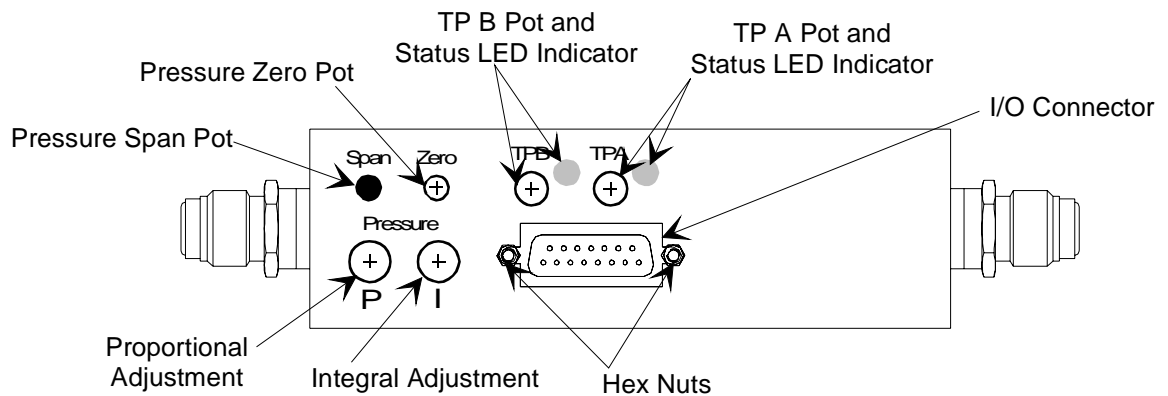

Figure 6: Top View of the Type 649 Controller
The 649 controller has one 15-pin, male Type “D” connector that provides the pressure output, set point input, and trip point output signals. Refer to Figure 6, page 21, for the location of the connector.
Figure 6 shows the top view of the 649 pressure controller. The user adjustable controls for pressure zero, pressure span, the P term, the I term, and the trip points are located on the top of the controller. The trip point settings can be measured through two test jacks, located under the enclosure, on the Transducer board. Refer to Figure 14, page 39, for the location of the test jacks.
The Proportional (P) term adjustment is located on the top of the 649 unit, as shown in Figure 6, page 21. The control is a 10-position dial, though it uses only 8 values. The last positions, 8 and 9, repeat the values of positions 0 and 1. The initial setting is 0. As you increase the setting number, the value of the term increases by a factor of approximately 2.8.
The Integral (I) term adjustment is located on the top of the 649 unit, as shown in Figure 6, page 21. The control is a 10-position dial where the 0 setting has the *longest* integration time; the 9 position setting has the *shortest* integration time. The initial setting is 0.
The 649 controller provides two trip points (Trip Point A and Trip Point B). Each trip point operates independently and controls an open collector output that can be connected to an external relay. Each trip point has an adjustment pot, a status LED, and a test jack. Refer to Figure 6, page 21, for the location of the trip point adjustment pots and LEDs. The test jacks are located inside of the unit, under the enclosure, as shown in Figure 14, page 39. Refer to *How To Adjust the Trip Point Values*, page 37, for instructions on changing the trip point values.